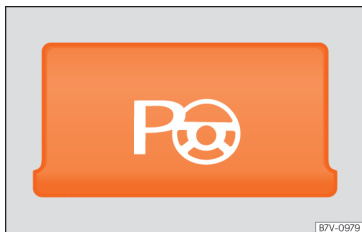

Fig. 251 Detailed view of the centre console: button to switch the park assist system on manually
- **In parallel parking:** press the  »»» Fig. 251 button as many times as necessary to select the desired parking mode. When the function is enabled, the lamp will light up.
- **In head-in parking:** press the  »»» Fig. 251 button as many times as necessary to select the desired parking mode. When the function is enabled, the lamp button will light up.
- Press button . When the function is enabled, the button  **Fig. 251** will light up.